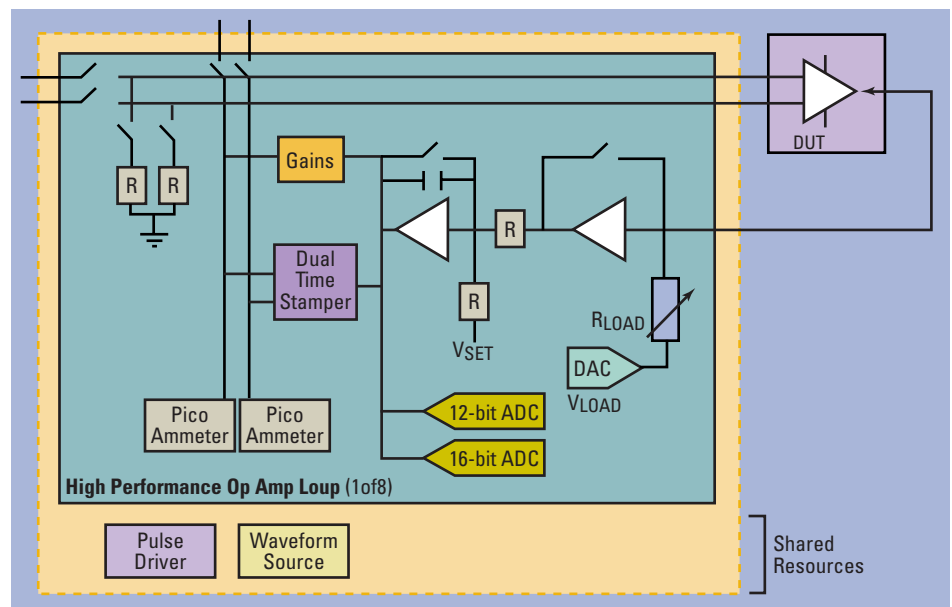

Figure 5-18: POOL instrument block diagram
The POOL instrument is a precision octal opamp loop designed to support multi-site testing of operational amplifiers. Each instrument provides eight (8) high precision op amp loop resources including dual picoamp ammeters, one 12-bit high speed A/D converter and one 16-bit high accuracy A/D converter, and a dual time stamper, all of which can be used as external instruments if needed. Shared resources on the POOL instrument consist of a 12-bit waveform generator, a 1,000 V/ $\mu$ s pulse generator, and pattern microcode support. Figure 5-18 illustrates the block diagram of the POOL instrument; Table 5-8 summarizes its key specifications.